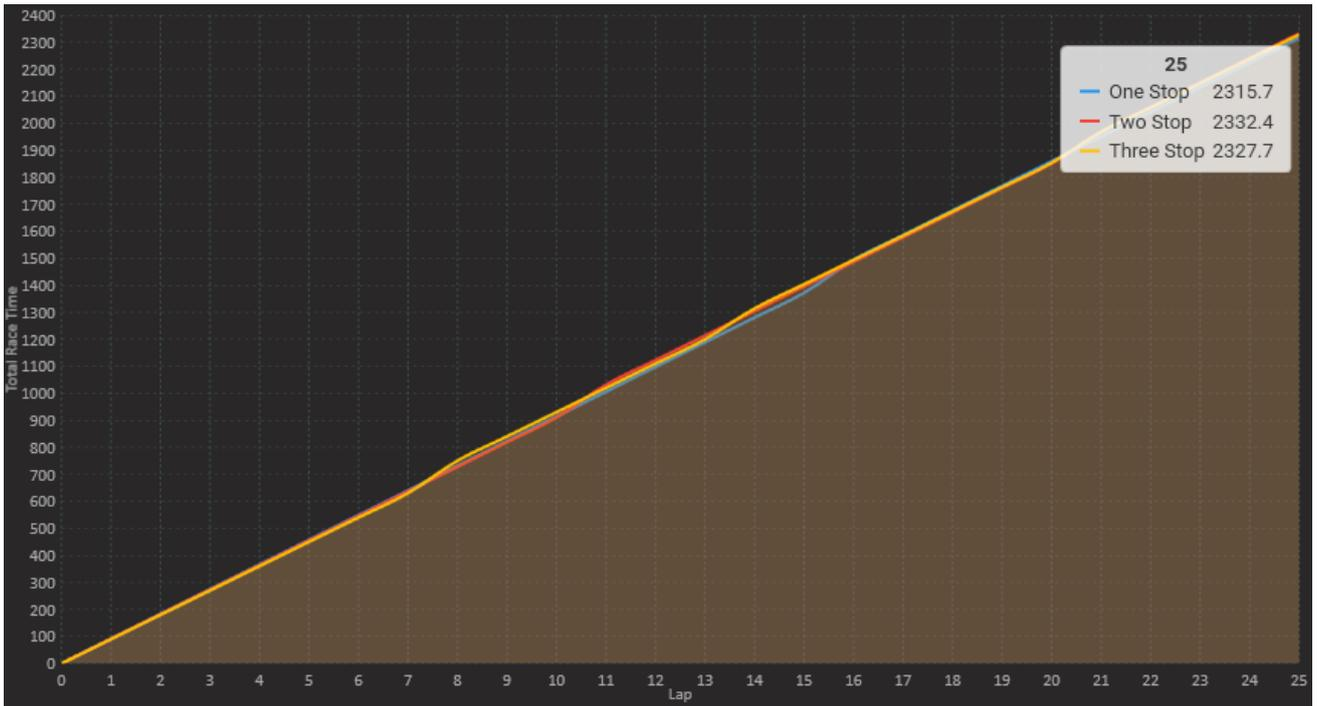

Figure 4.2: Race Strategy Analysis Example Results
- 4) Move the mouse cursor over the final lap on the chart and observe the different race times for the various pit strategies (see Figure 4.2).